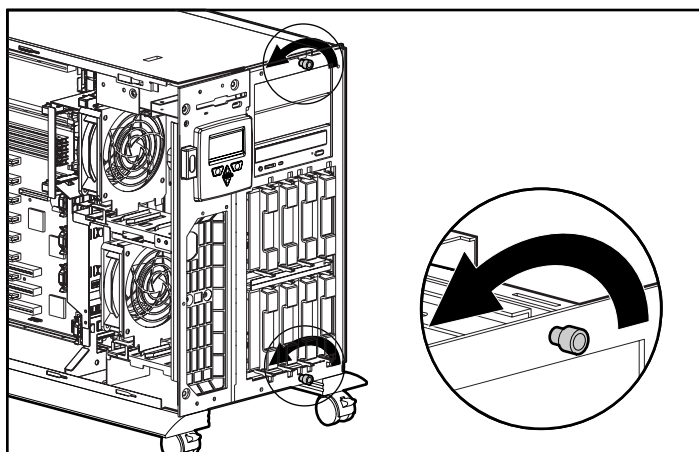

Figure 4-11. Loosen thumbscrews
2. Loosen the thumbscrews on the front of the drive cage. See Figure 4-11.